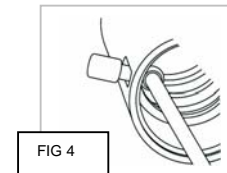

FIG 4
- The vertical type which requires the handle to fit through a slot in the rear, push the rod from the underside of the mixer, so that the thread at the top is visible through the slot, twist the handle through the slot at the rear and then turn so the thread of the rod screws into the handle (see FIG 4)